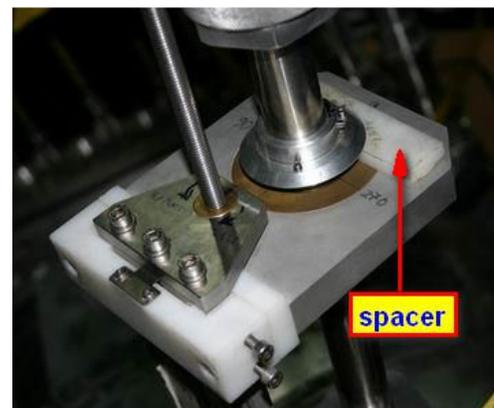

Fig.2
4. for SXR1, remove the white plastic spacer (Fig.2) and put it somewhere on the probe;
3. in order to close the VAT valve of SXR1 this probe should be further extracted about 2 cm, use the white spacer (see Fig.2);